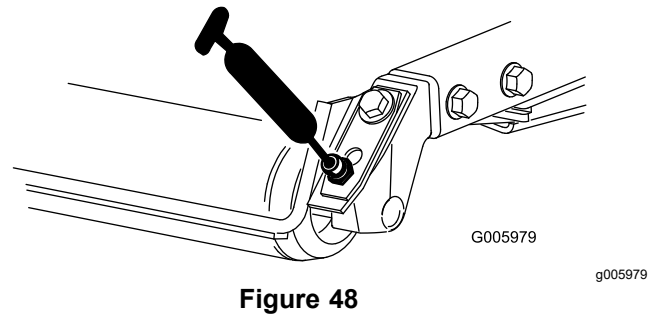

Figure 48
- Rear roller bearings (2 per cutting unit) as shown in Figure 48